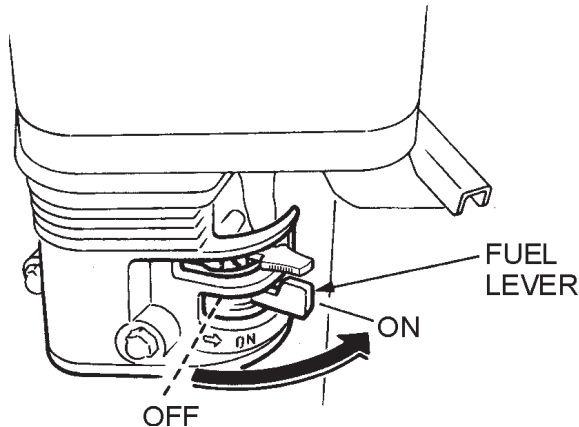

Figure 24. Engine Fuel Valve Lever
1. Place the engine **fuel valve lever** (Figure 24) to the "**ON**" position.